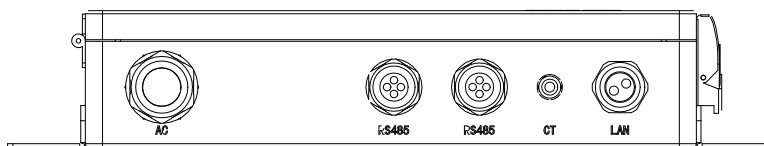

Figure 4-5
- EMB-100 can be placed horizontally to work, as shown in Figure 4-5.